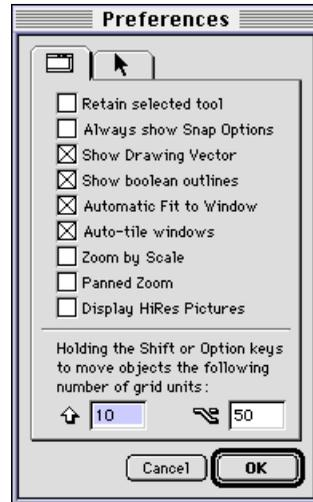

Fig. 18 The General tab in the Preferences dialog box.
2. Select the check boxes for the options on the General tab to match the illustration (fig. 18).